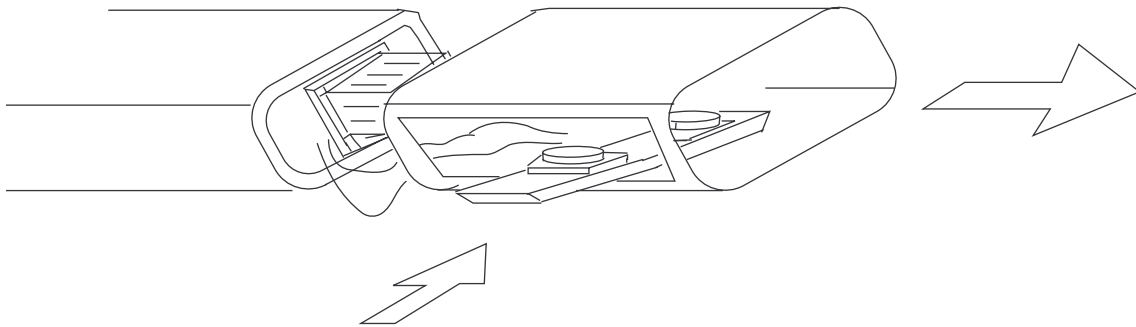

Figure C-2. Removing the Motor Cover
3. Slide the connector mounting panel through the slot towards the inside of the motor cover and remove the motor cover from the module (see Figure C-2).